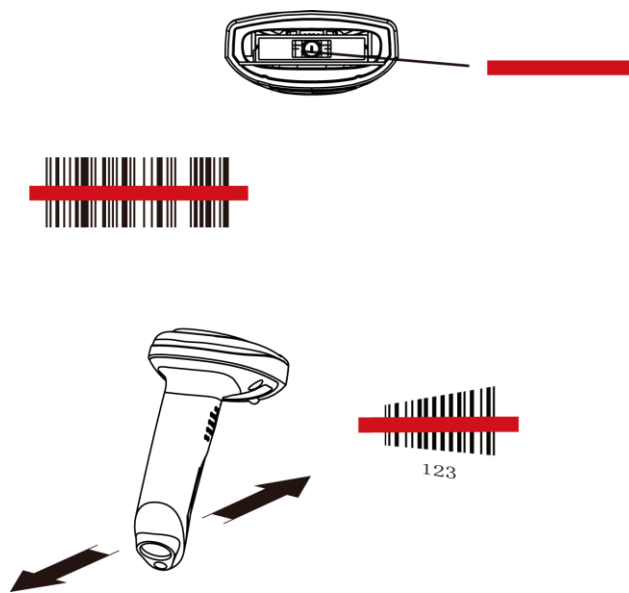

Fig. 1-10
2. Aim the red beam across the center of barcode, as shown in Fig.1-10.